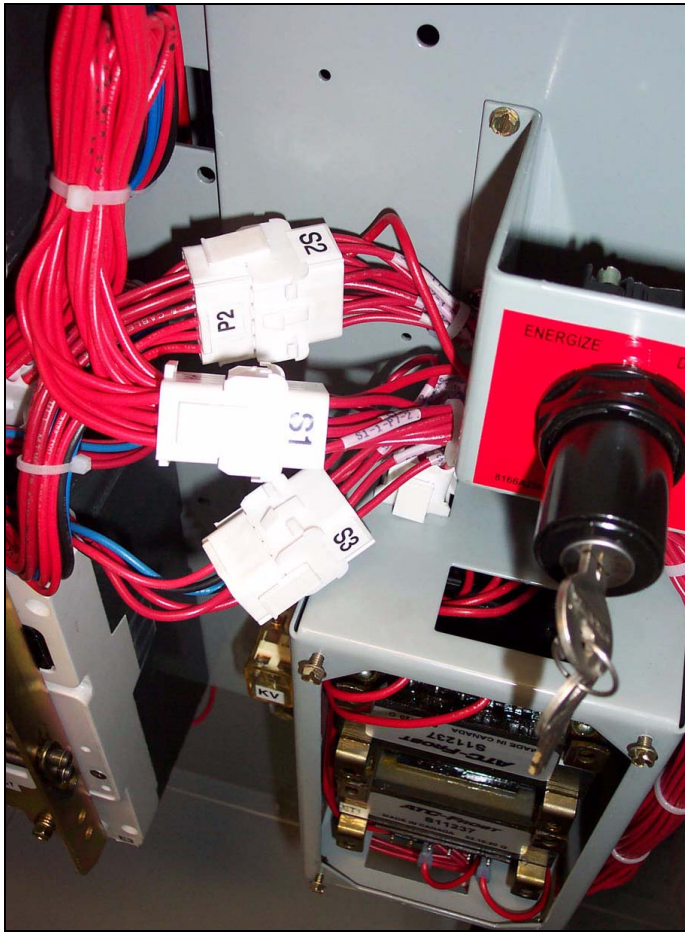

Figure 20. Location of the P1, P2, and P3 Connector Plugs for ATCs with the North American Market Transformer Panel.
Step 1: Disconnect the power panel from the rest of the transfer switch by unplugging the connector plugs P1, P2, and P3 (Figures 20 and 21).